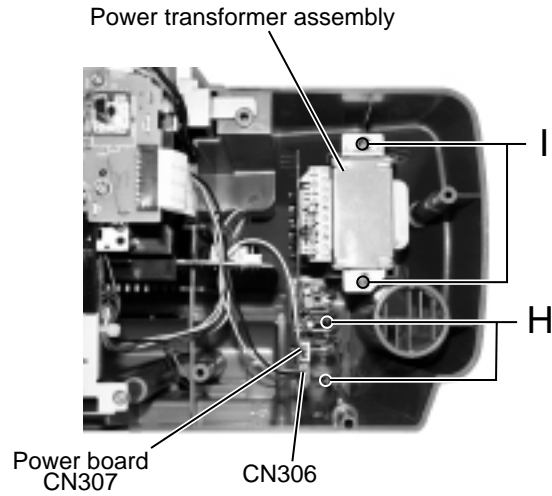

Fig.20
**■Removing the power transformer assembly (See Fig.20)**